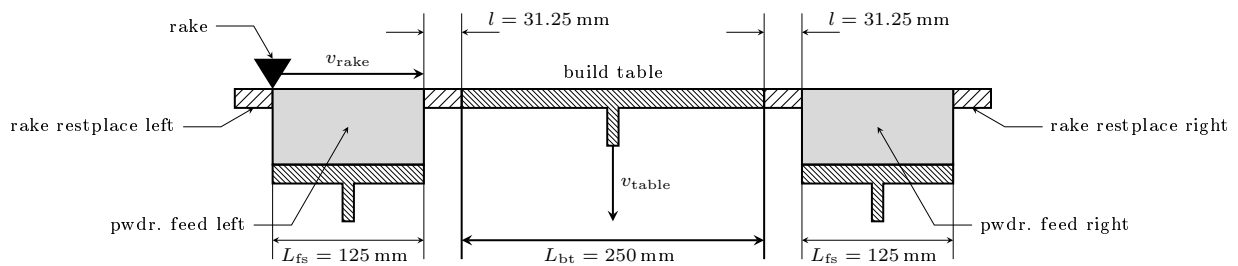

Figure 4: Representation of the SLM machine
- d) The other option for fabricating the part is the SLM process (see Fig. 4).